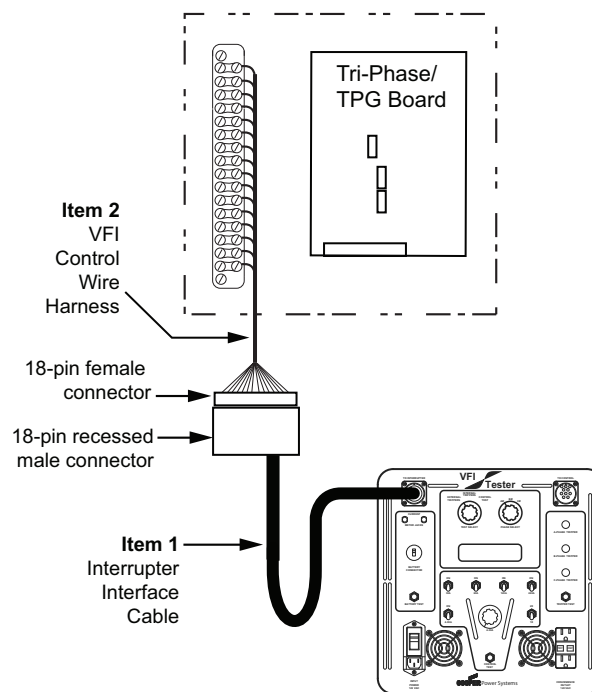

Figure 7. Connection of the VFI tester to top-hinged VFI units with TPG controls and all VFI units for external flux-shift tripper test.
3. Connect the 14-pin female/18-pin male interrupter interface cable (Item 1) to the VFI tester at the interrupter port. Refer to Figure 7 for steps 3 through 17.